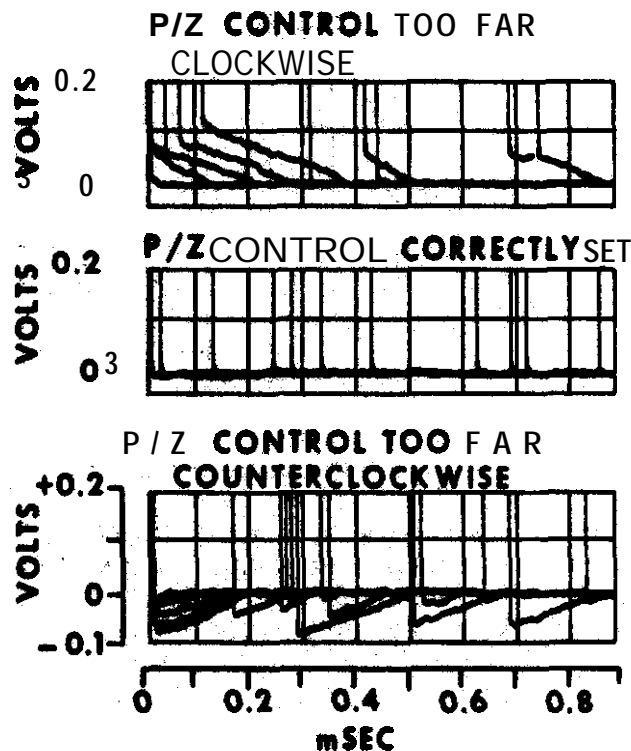

Fig. 4.2 P/2 Control Adjustment
**Compensation** is **accomplished** by turning the P/X control for flattest possible **baseline** (See **Fig. 4.2**).